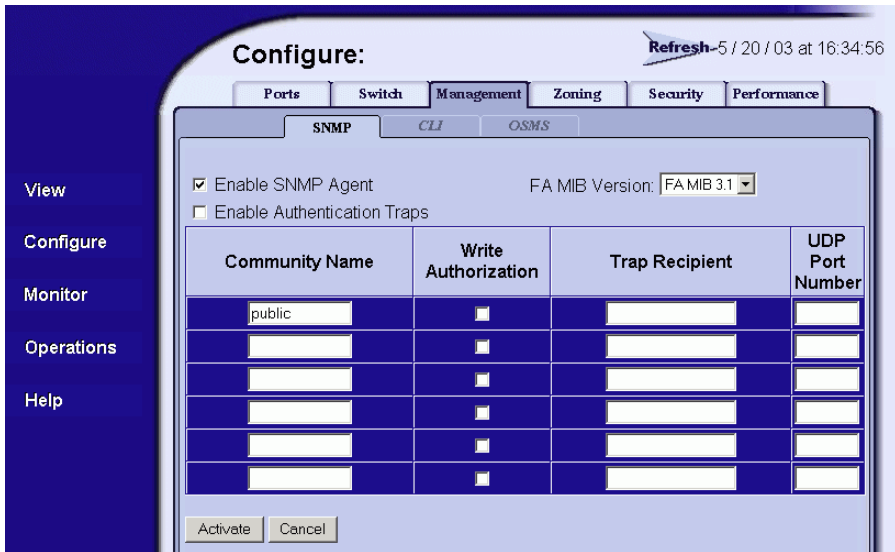

Figure 11: Configure SNMP parameters tab view
- 2. Choose the **Management** tab. The **Management** and **SNMP** tab views display (Figure 11).